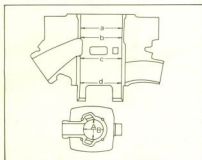

Fig. 3-3-5
- 1) In two-stroke engines, the maximum wear usually occurs in the upper area of the cylinder wall due to the side thrust of the piston, with less wear in the adjacent areas of transfer and exhaust ports. Measure each cylinder's bore diameter at four different depths (a, b, c, d) with a micrometer or a cylinder gauge placed in the direction of A and B. See Fig. 3-3-5 if the difference between the maximum and minimum diameters measured exceeds 0.05 mm (0.0019 in.), rebore and hone the cylinder. Warp, however, can be extreme at high heat areas such as the exhaust port. Therefore, care must be taken during measuring.
- 3) To make sure that the cylinder boring has been correctly done, measurements should be made as illustrated in Fig. 3-3-5.